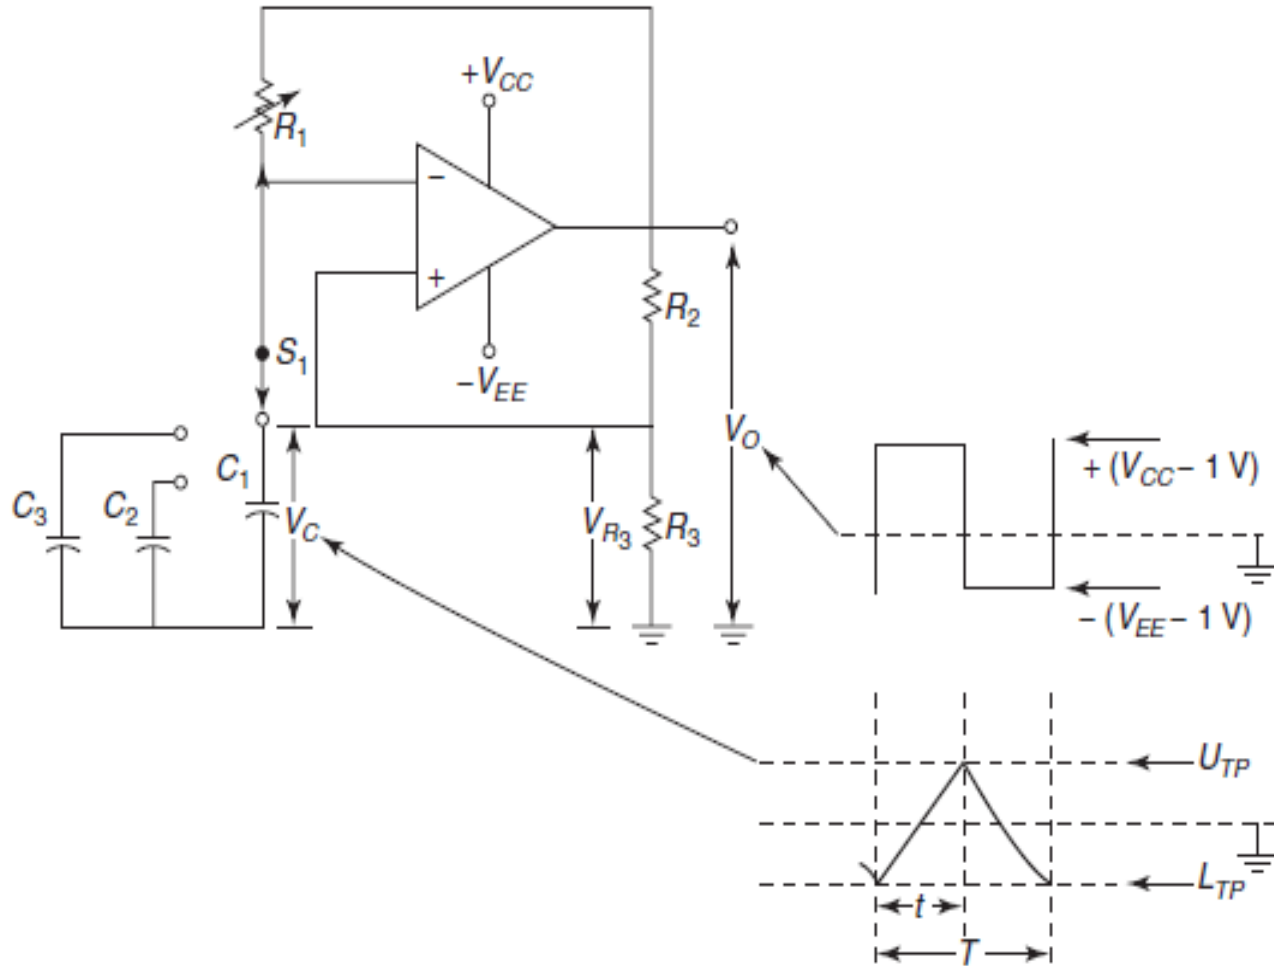

Figure 14-21 Sine wave generator
- In Fig. 14-21, the block comprising the op-amp, resistors R_2 and R_3 constitutes a Schmitt trigger circuit. The capacitor C_1 gets charged through the resistor R_1 . When the voltage of the capacitor reaches the upper trigger point of the Schmitt trigger circuit, the output of the op-amp switches to output low. This is because the Schmitt trigger is a non-inverting type. Now, when the op-amp output is low, the capacitor C_1 starts getting discharged.